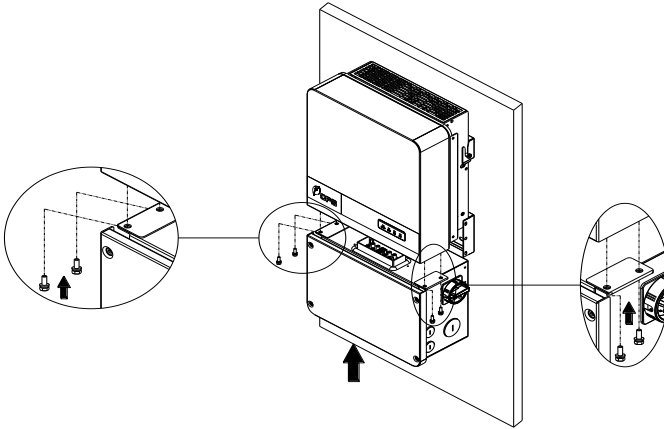

Figure 3-8 Installation of the Wire-box
3. Secure the wire-box to the main enclosure by using the **M6x18 screws** (4pcs) to fasten the wire-box. (see Figure 3-8)